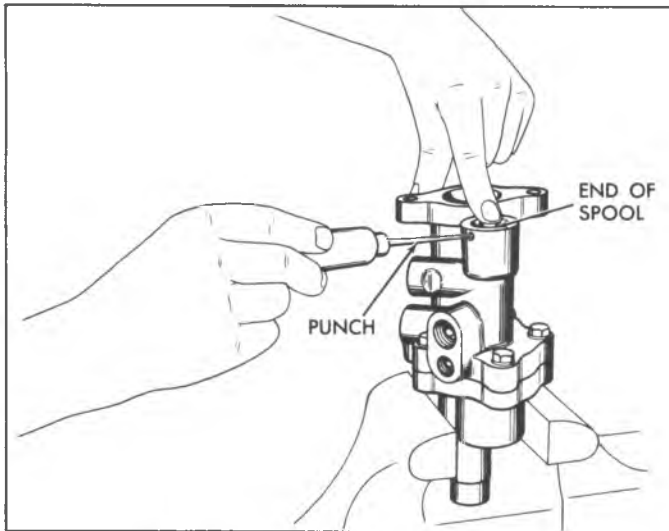

Fig. 4E--Removing Spool Plug from Booster
8. Press in on spool plug, and insert a small punch into the hole on top of the housing (fig. 4E). This unseats one side of the spool plug snap ring from its groove in the bore. Then remove the snap ring from the bore.